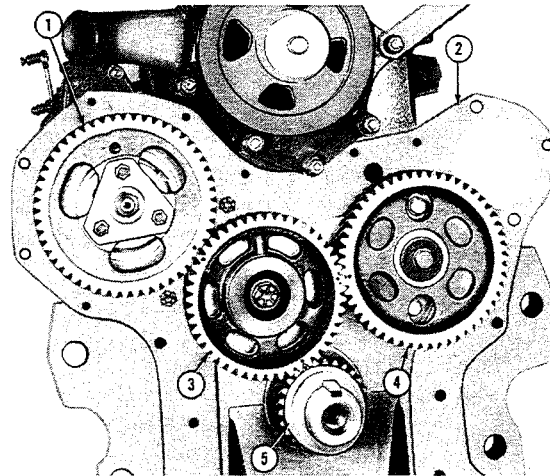

Figure 29
1. The timing gears are shown in Figure 29. The gears are correctly assembled when the timing marks on the gear teeth line up, as shown in the illustration, with the No. 1 piston on TDC.